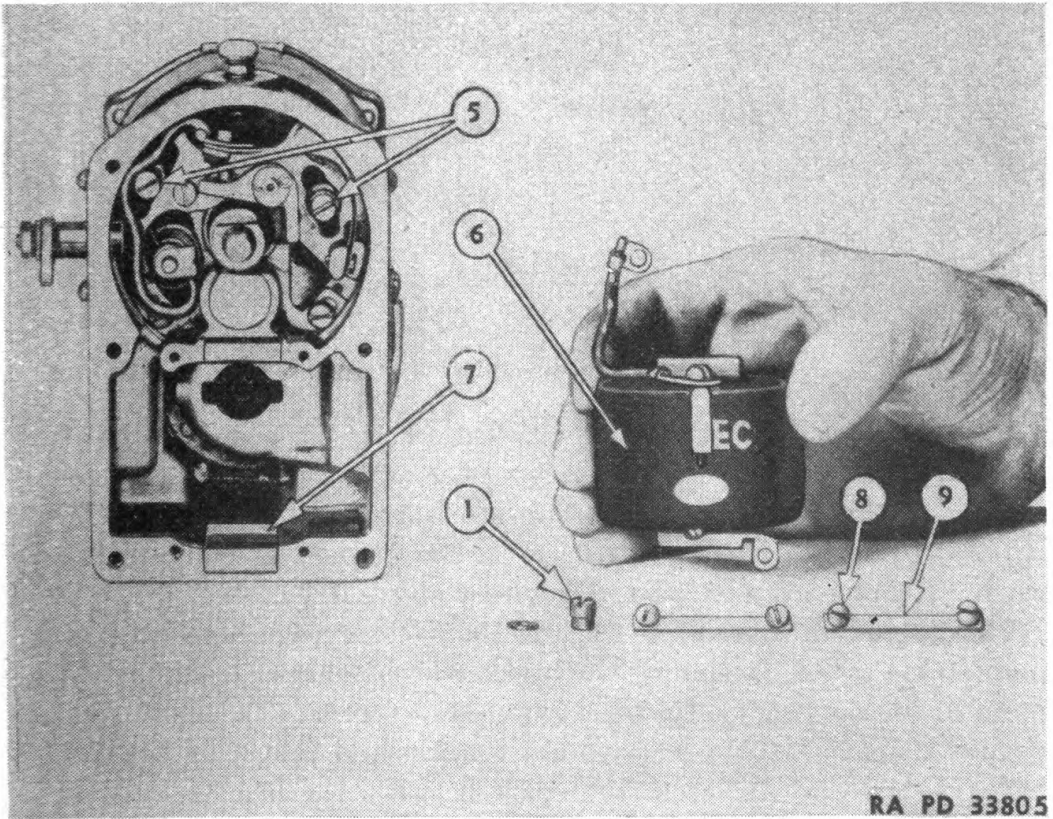

FIGURE 90.—Winding or coil removal.
89. Rotor.—Pull rotor (2) from shaft and clean both sides. Replace rotor if the brass insert is burned, the rotor is cracked, or the face is grooved.
90. Winding or coil.—The winding (6) (fig. 90) may be removed by taking off slotted nut (1) and washer and removing the winding lead. Remove screws (8) holding straps (9) in position and slide out the winding. An ohmmeter will register infinity if the winding is unserviceable. When replacing, press firmly on the winding to seat the core ends in tapered pole shoes (7) before replacing the clamps.